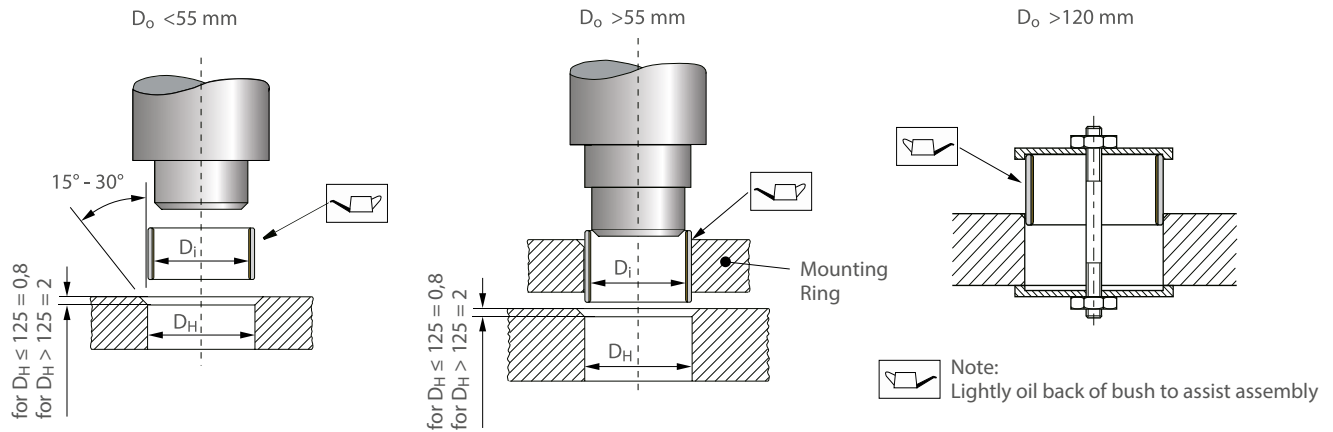

Fig. 26: Fitting of cylindrical bushes
- Bore diameter <55 mm: Mounting with stepped mandrel (case-hardened carbon steel), see Fig. 26
- Manufacture the housing diameter according to the recommendations (see Fig. 26)